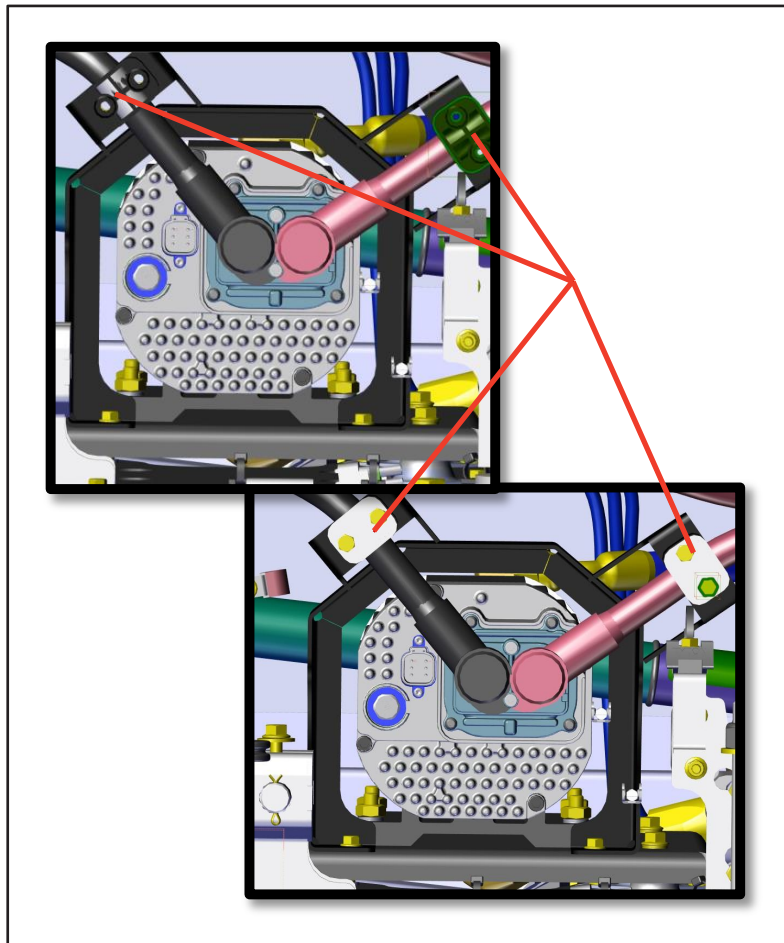

Figure 9 - Re-installation of retained Cable Blocks
- 1.11. Re-install the retained hose blocks using a 10mm socket and apply torque on the bolts to 10 N-m/88 lbs-in (see figure 9).